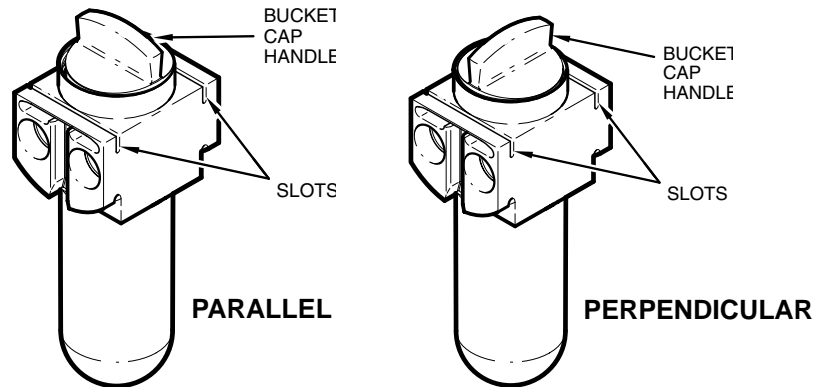

Figure 2-4. Orientation of Bucket Cap Handle with Slots
5. Insert each numbered bucket cap into the bucket with the same number, so that the cap threads seat on the bucket threads. Then, rotate each cap clockwise until the cap seats firmly inside the bucket, typically about 3/4 of a turn. When tightened properly, the cap handle should be either parallel or perpendicular (approximately) to the slots on the bucket (see Figure 2-4).